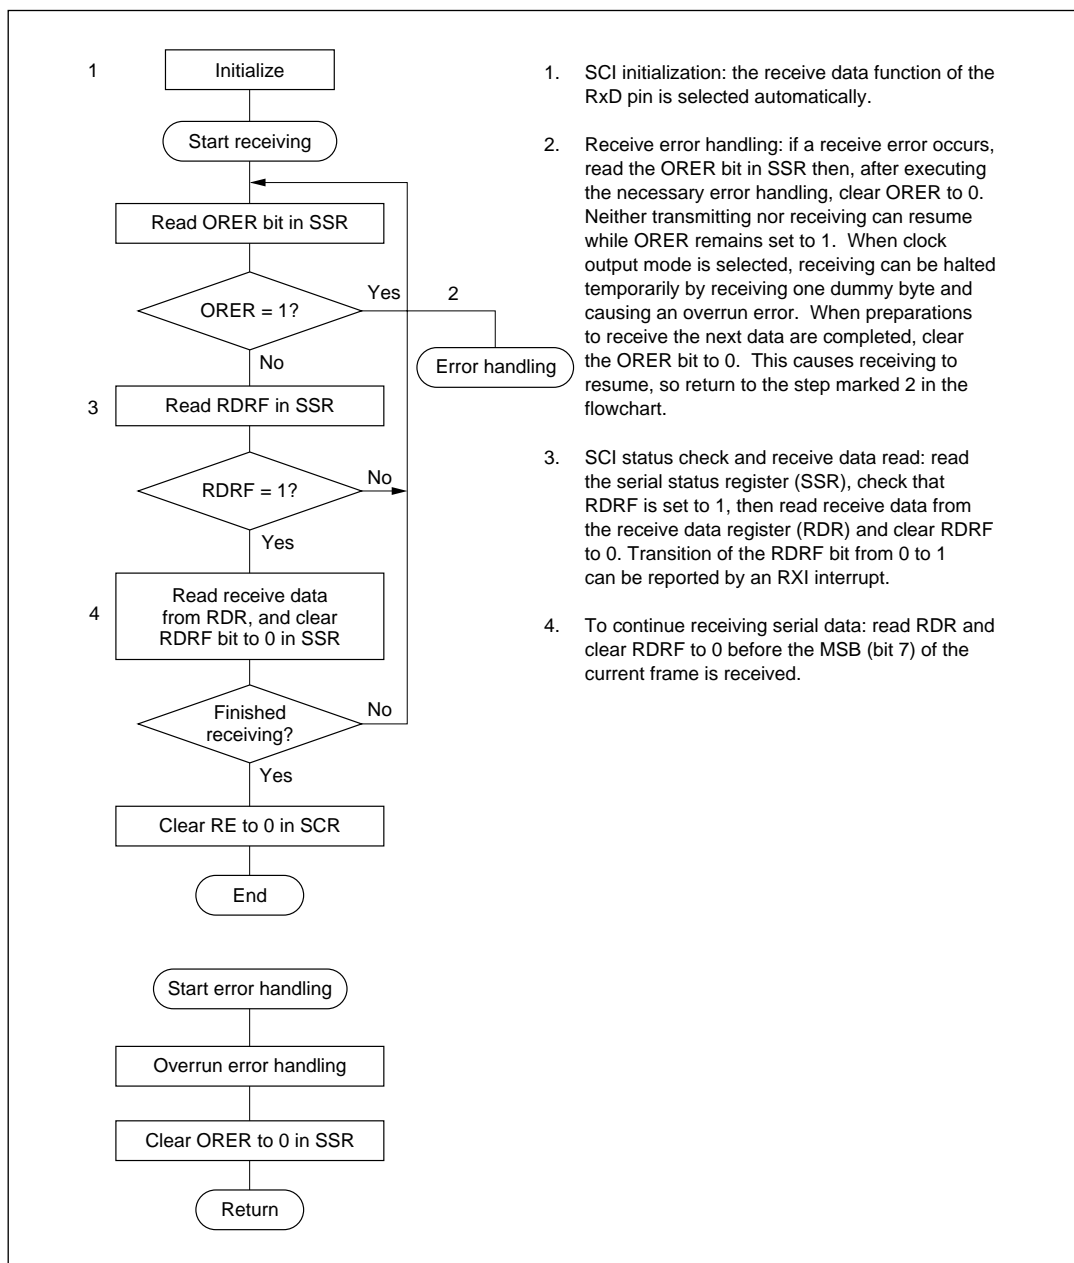

Figure 11-15 Sample Flowchart for Serial Receiving
- **Receiving Serial Data:** Follow the procedure in figure 11-15 for receiving serial data. When switching from asynchronous mode to synchronous mode, be sure to check that PER and FER are cleared to 0. If PER or FER is set to 1 the RDRF bit will not be set and both transmitting and receiving will be disabled.